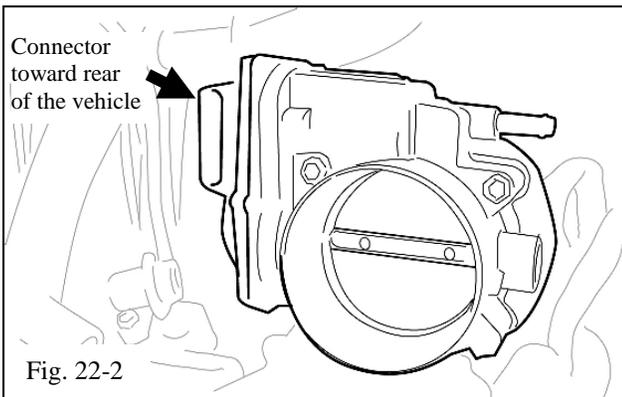

Fig. 22-2
- (c) Fasten the throttle body to the supercharger housing with the 4 OE bolts (Fig. 22-2).